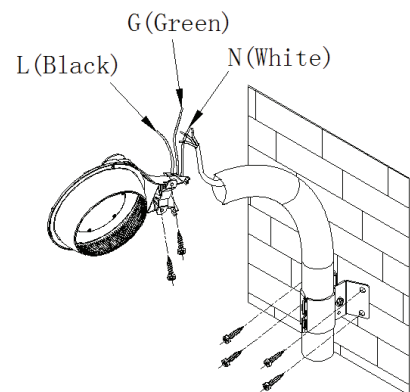

FIG. 3
- Please make sure that the tube will not rotate. (See Fig. 3)